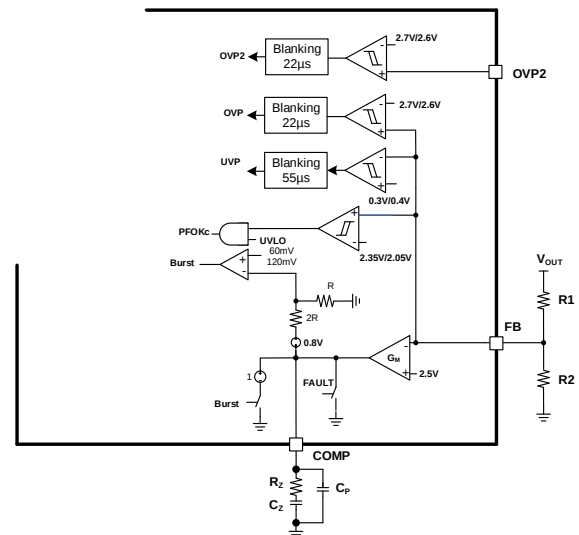

Figure 13: FB Functional Block
The boost PFC output voltage is sensed on FB, and is compared with the internal reference (V_{REF} , typically 2.5V) (see Figure 13 on page 19). R_{O1} is recommended to be 10M Ω to minimize power consumption. R_{O2} can be calculated with Equation (1):
Figure 13 shows that if the FB voltage (V_{FB}) exceeds the OVP trigger threshold (typically 2.7V), the OVP comparator shuts down the output of the gate drive circuit after a blanking time (t_{BL_OVP}) of 22μs. Switching resumes when V_{FB} drops to 2.62V.
The second OVP comparator shuts down the output of the gate drive circuit after a blanking time of t_{BL_OVP2} (typically 23μs), see Figure 13.